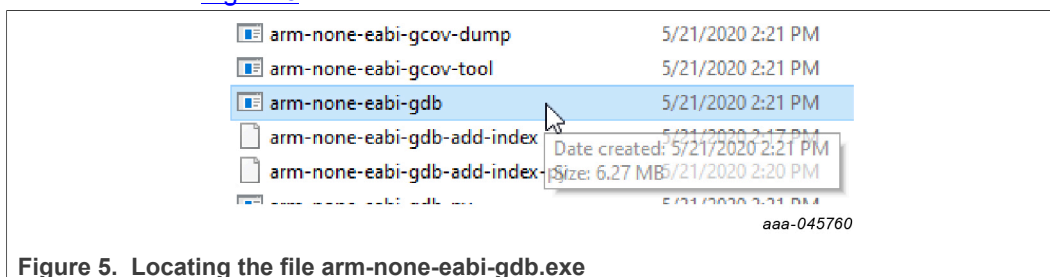

Figure 5. Locating the file arm-none-eabi-gdb.exe
2. Locate the file named '**arm-none-eabi-gdb.exe**' by navigating to **<path-to-installation-folder>/GNU Arm Embedded Toolchain/9 2020-q2-update/bin** folder as shown in Figure 5.